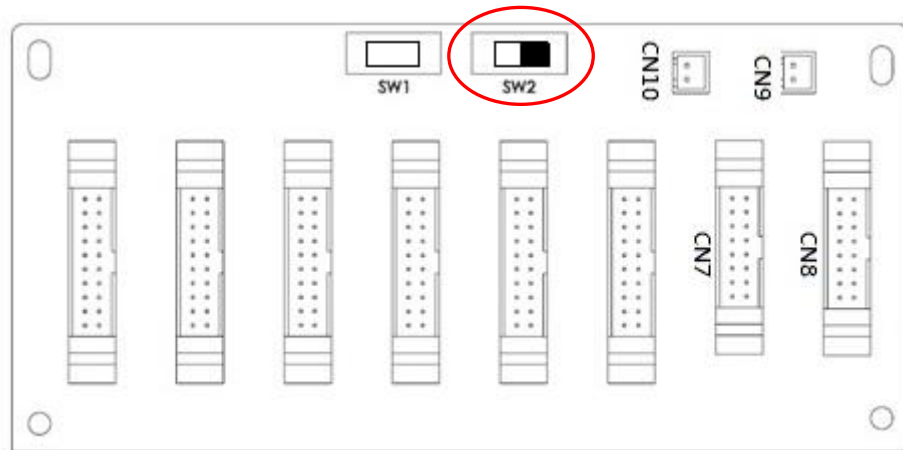

Figure 9-2 Rack 1 SW2 set to the right side
1. The parallel board(s) of the Rack 1, the SW2 must be set to the right side, please refer to the figure 9-2 as below.